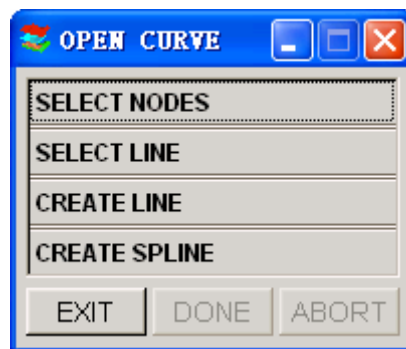

Figure 6.1.26 Open Curve Options
2. Select **OK** to accept the selected elements, and a window will be displayed, as shown in Figure 6.1.26, to prompt the user to select one of the following methods to fill the area.